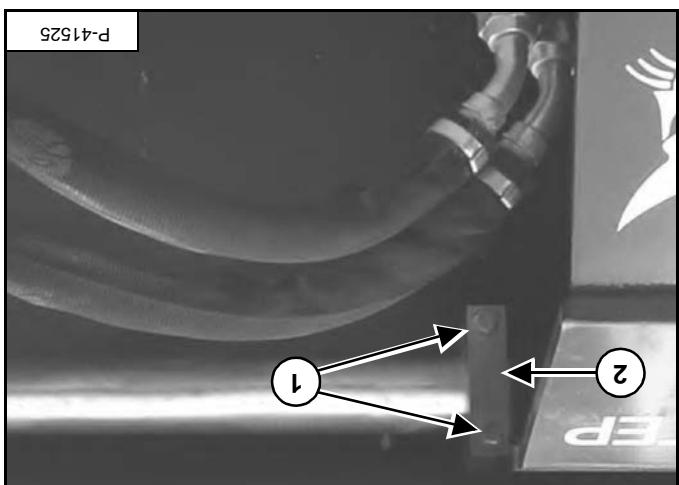
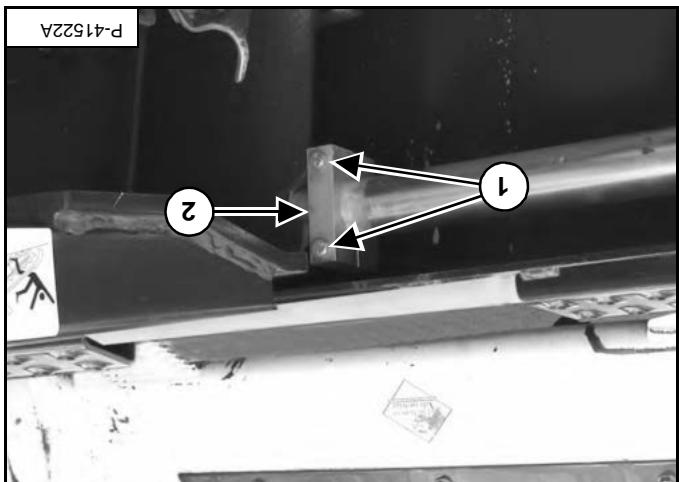

Figure OI-93
Figure OI-92
- Slide the blocks (Item 2) [Figure OI-92] and [Figure OI-93] against the trencher frame.
- Loosen the two bolts (Item 1) [Figure OI-92] and [Figure OI-93] from the blocks (Item 2) [Figure OI-92] and [Figure OI-93].